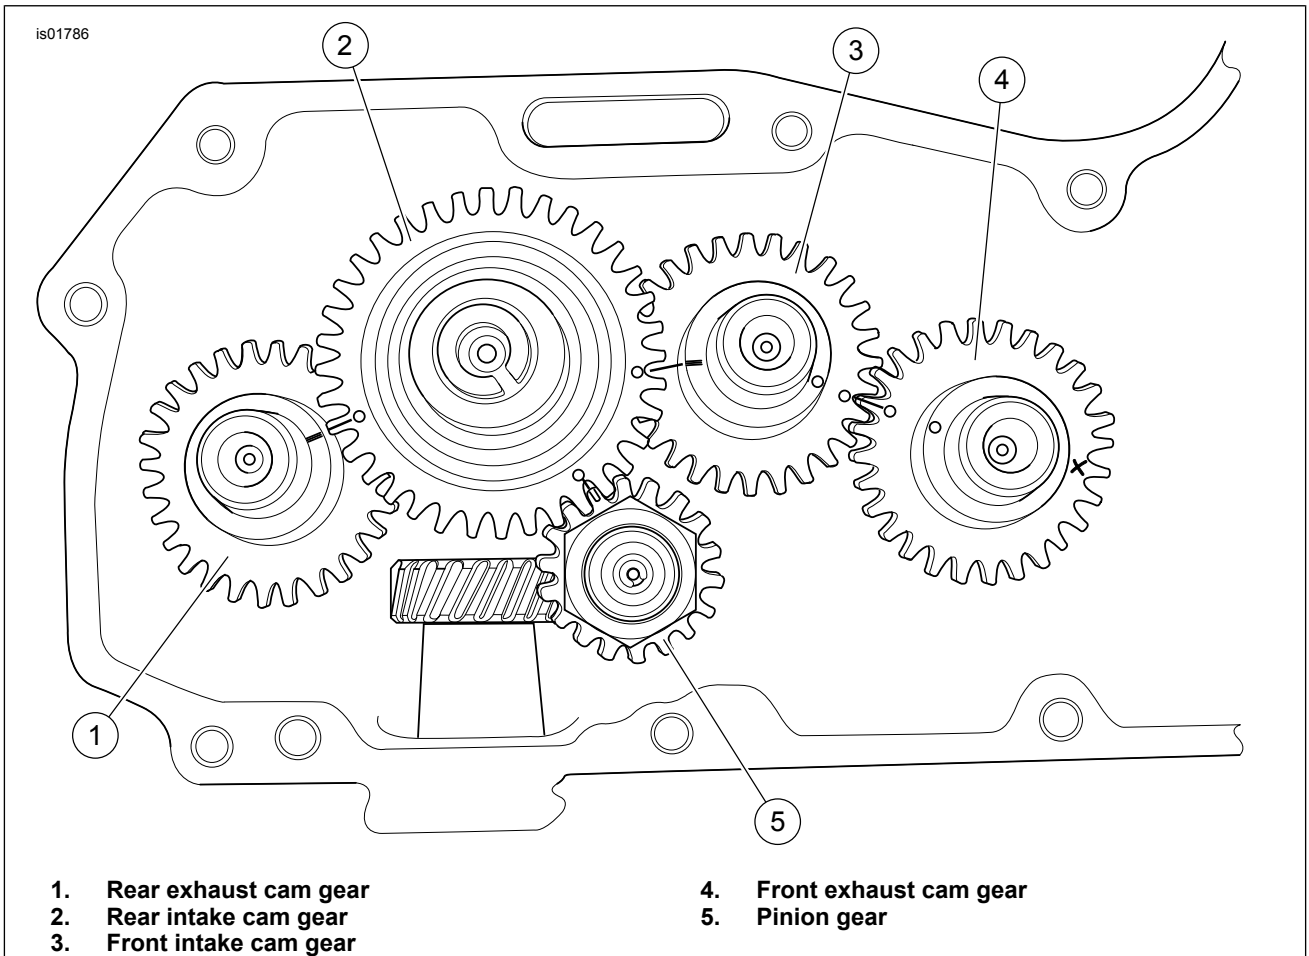

Figure 2. Proper Alignment of Camshaft Timing Marks
4. See Figure 2. Rotate engine to align timing marks. Cams are numbered 1 to 4 from the rear exhaust (1) to the front exhaust (4). Remove camshaft 2. One at a time, remove camshaft 1, 3 and 4 and replace with the appropriate camshaft from this kit. Be careful to maintain timing mark alignment. Install camshaft 2 from this kit last. Carefully check alignment of all timing marks.